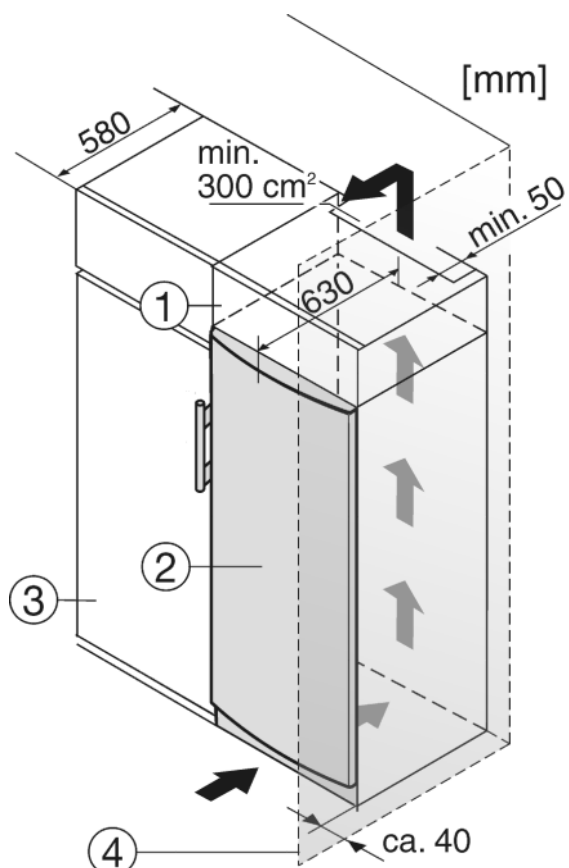

Fig. 8
- (1) Stack cabinet (3) Kitchen cabinet
(2) Appliance (4) Wall
The appliance can be built into kitchen units. A top cupboard Fig. 8 (2) can be added above the appliance in order to bring the appliance Fig. 8 (1) up to the height of the fitted kitchen units.
When retrofitting with kitchen cabinets (max. depth 580 mm) the appliance can be installed directly next to the cabinet Fig. 8 (3). The appliance door projects 34 mm from the front of the kitchen cabinet at the side and 50 mm at the centre of the appliance. This is so that it can be opened and closed easily.
If the appliance is installed with the hinges next to a wall Fig. 8 (4), the distance between appliance and wall has to be at least 40 mm. This corresponds to the projection of the handle when the door is open.